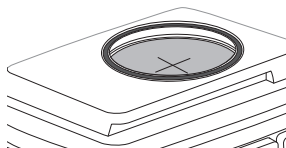
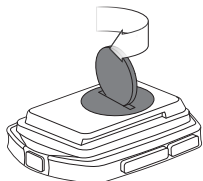

Figure 7. Insert rubber o-ring into groove.
Figure 8. Turn cover clockwise with coin.
- ✦ Press the rubber o-ring (I) into the groove around the battery in the computer. (Figure 7)
- ✦ Place the battery cover (H) over the battery with the slot facing upward.
- ✦ Turn the cover clockwise with a coin. (Figure 8)